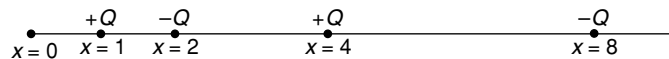

Fig. 1.52
21. What is the potential at $x = 0$ due to these charges in Fig. 1.52?